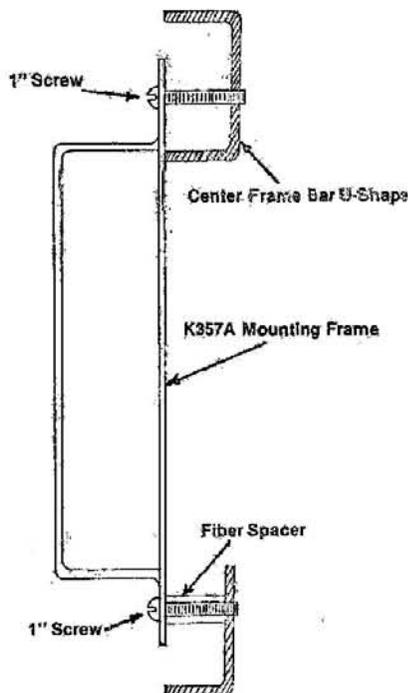

Figure 2. Mounting of K357A Frame in New K512 Systems
3.01 The K357A is designed to mount on the hinged frame of a K501 or K512 Key Service Unit (KSU). See fig. 2.
- (1) **Current 501A Key Service Units.** Use the four 3/8-inch screws provided and mount the K357A Panel on the front of the equipment frame.
- (2) **Current 512A Key Service Units.** Use two of the fiber spacers and the four long (1 1/4-inch) screws provided and mount the K357A Panel behind the equipment frame as shown in figure 2.
- (3) **Old 501 Floorstand Key Service Units.** Use the four 3/8-inch screws provided and mount the K357A Panel behind the equipment frame.
- (4) **Old 501 and 512 Wall Key Service Units.** Use the four fiber spacers and four long (1 1/4-inch) screws provided and mount the K357A Panel behind the equipment frame.